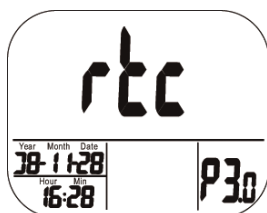

Fig. 13: Setting clock and calendar (rtc: real time clock)
- Press LOG/▲ in P1.0 mode twice to enter P3.0 mode for setting clock and calendar (Fig. 13).